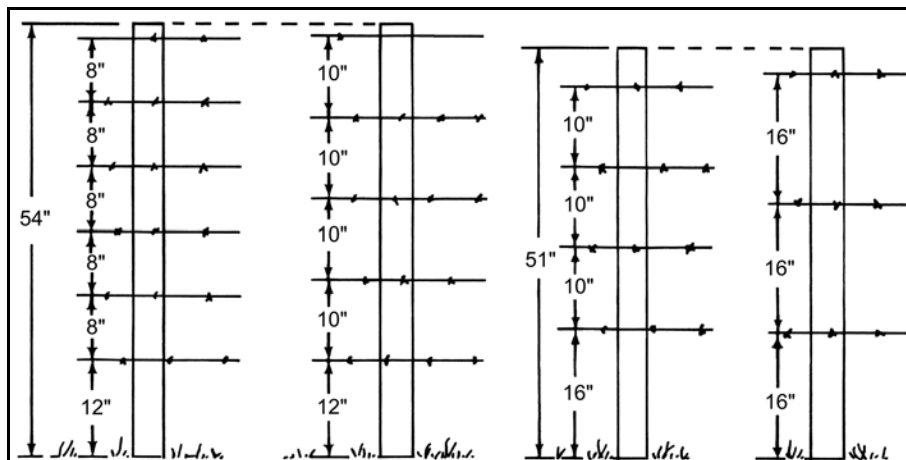

Figure 4. Common spacings of wire in barbed wire fences.
**Standard barbed wire fences** (Figure 4) usually have posts spaced 10 to 12 feet apart and use three to five strands of wire.